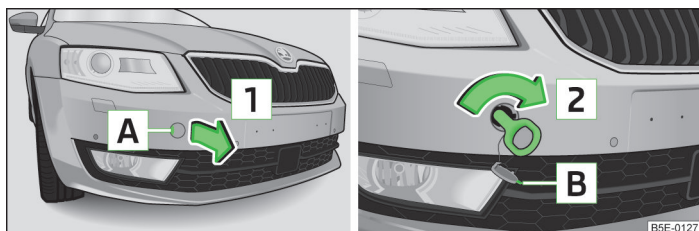

Fig. 197 Front bumper: Removing the cap/installing the towing eye
- Press on the cap in the area **A** » Fig. 197.
- Manually screw in the towing eye in the direction of the arrow **2** » Fig. 197 until it stops » **i**.